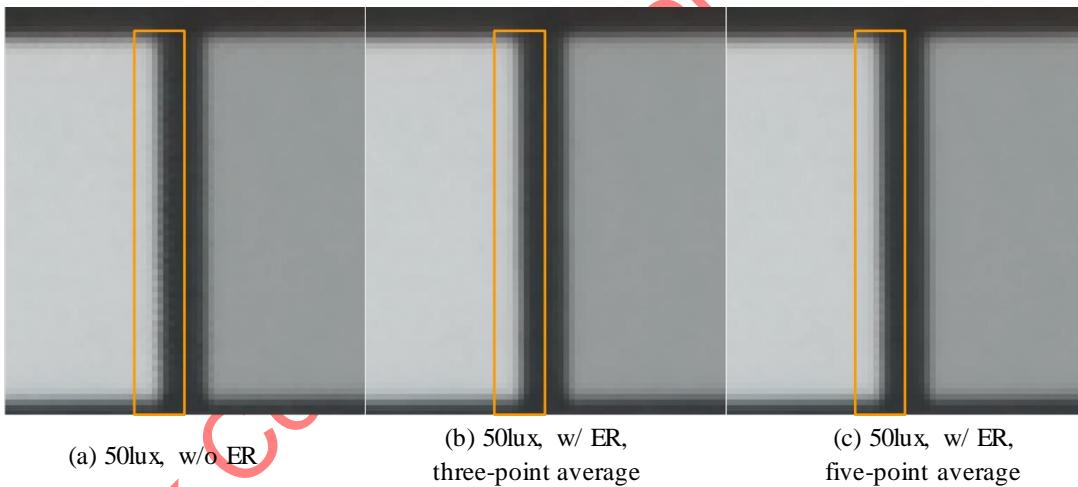

Fig. 5-116 The smooth results with different mask size mode
- Please note: If you find your input like this (the rightmost picture), please check CFAI parameters or before ER's modulus. Our input is abnormal. This case is shown in Fig. 5-116.